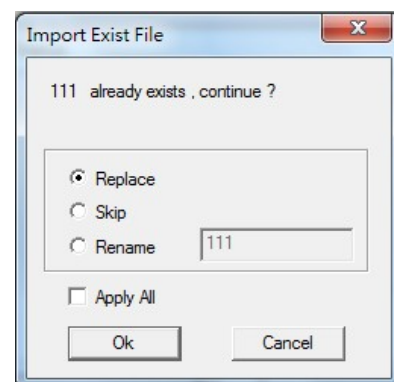

Fig. 3.1.02
2. Select the items and click "..." to select the folder user want to export or import, then click "Import" or "Export" button. If the name of lens has already existed, the system will pop a warning dialog box, see Fig.3.1.02. Please notice that "*Jen (Lens cor. File) is only used for version 2.4, so it can only be import.